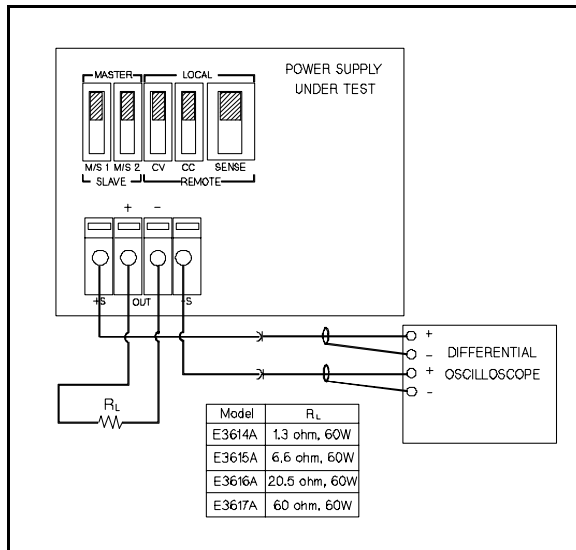

Figure A-7. CV PARD Peak-to-Peak Measurement Test Setup
- Connect the test equipment as shown in Figure A-7.